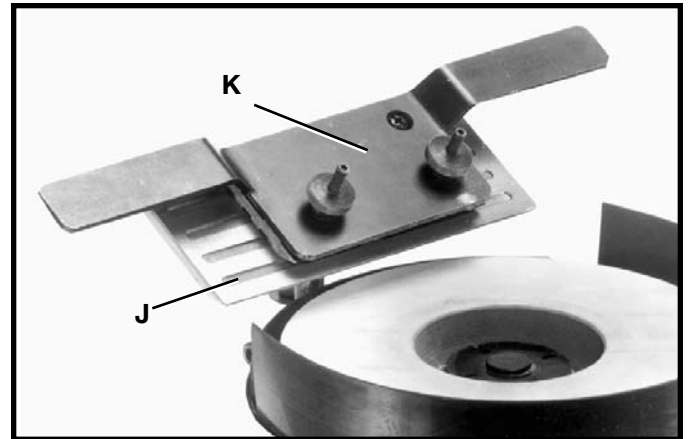

Fig. 16
7. Fig. 16, illustrates tool and chisel holder (K) in position on tool rest base (J).